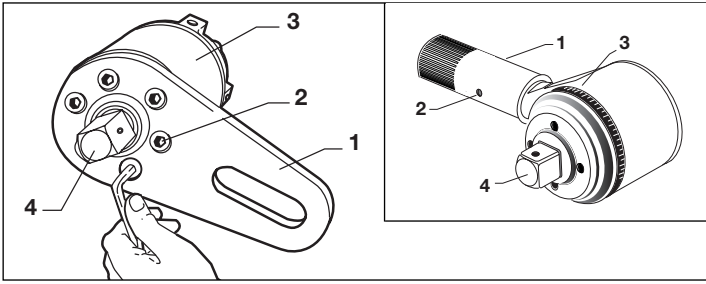

Fig. 1 – Changing the Reaction Plate
WARNING: Do not hold torque multiplier reaction bar or reaction plate (Fig. 1, Item 1) while applying torque. Normal multiplier deflection could create pinch a point.
WARNING: Prior to EACH use, check reaction plate/bar holding screws to insure they are tight (Fig. 1, Item 2).
WARNING: Prior to EACH use, inspect output square drive (Fig. 1, Item 4) for visible sign of fatigue or fracture. Replace if necessary.
A controlled-shear output square drive (Fig. 1 Item 4) protects internal components in the event maximum output capacity is exceeded. This overload-protection feature causes the drive to fracture when output exceeds from 103% to 110% of rated output capacity. One replacement drive is included with the torque multiplier (E391, E392, E393, E492, E493, E494, E495). (Order additional replacements from your Enerpac distributor.)
3. Mount the proper size female square drive socket onto the torque multiplier's output square drive (Fig. 1, Item 4). Position socket and torque multiplier on the fastener to be tightened.
1. Remove the screws (Fig. 1, Item 2) holding the reaction plate (Figure 1, Item 1) to the torque multiplier, and remove the reaction plate from the torque multiplier.
5. Re-attach reaction plate to torque multiplier with the screws previously removed (Fig. 1, Item 2).